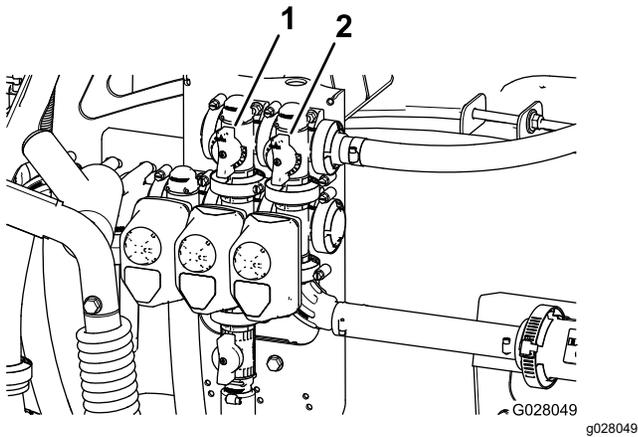

Figure 24
11. Adjust the agitation-bypass valve (Figure 24) on the backside of the agitation valve until the pressure reading on the gauge is 6.9 bar (100 psi).
9. Adjust the master-section-bypass handle to control the amount of agitation occurring in the tank (Figure 24).